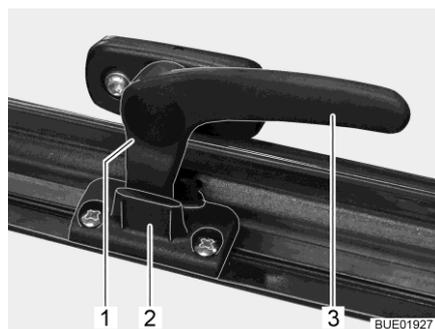

Fig. 19 Catch lever in "continuous ventilation" position
- "Continuous ventilation" (Fig. 19)
- Turn the catch lever (Fig. 19,3) a quarter turn towards the centre of the window.
- Turn the catch lever a quarter turn towards the window frame. The locking catch (Fig. 19,1) has to be moved into the recess of window catch (Fig. 19,2).